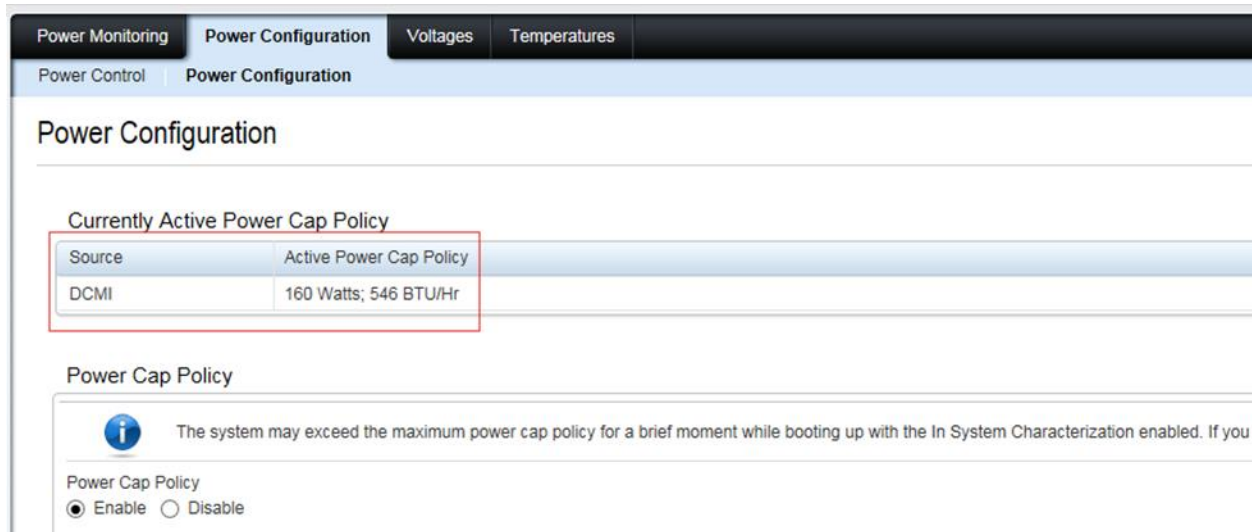

Figure 2 Viewing active Power Capping Policy via iDRAC GUI
Figure 2 illustrates viewing the Power Configuration page within the iDRAC GUI. This shows that the Sled Power Limit is being managed by the Chassis (SC) and is verified by the Active Power Cap Policy showing DCMI.